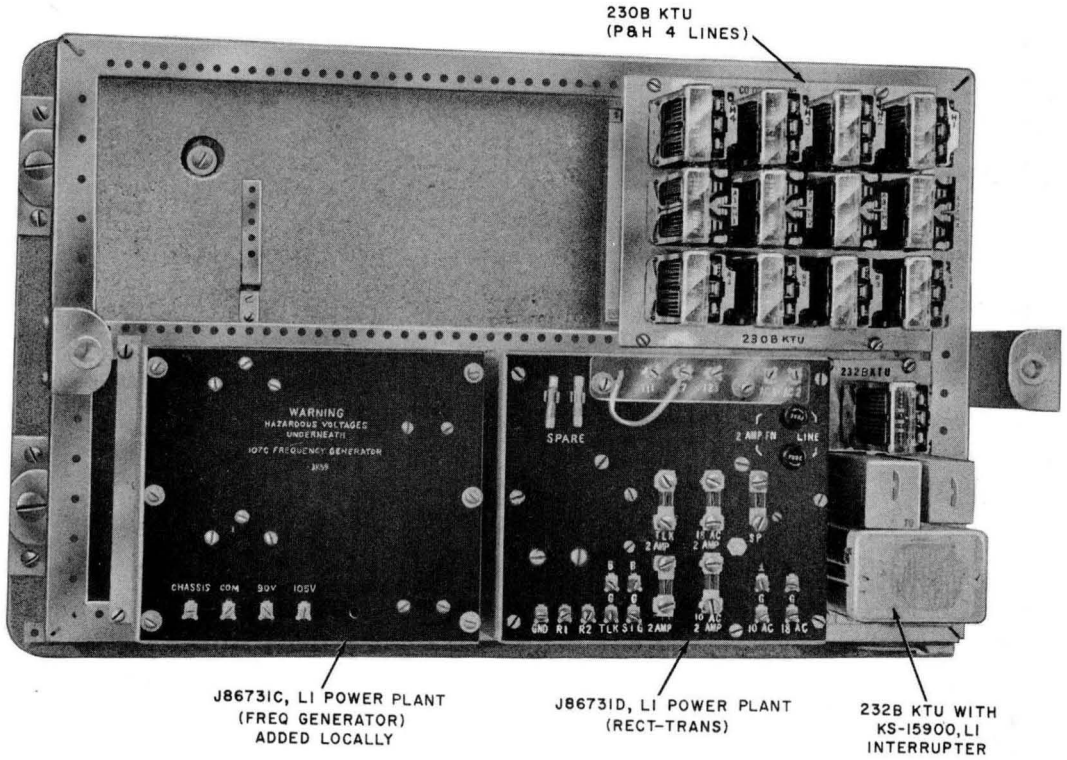

Fig. 4—200K4 KTU (Without Cover)
2.15 *200K-Type KTU* (Fig. 4) provides:
- Unit, Telephone, Key 247A (MD) (Fig. 4 and 5)